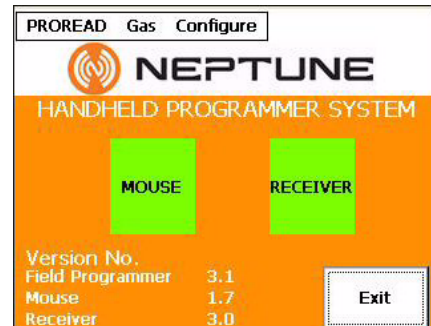

Figure 5.12 Neptune Programmer System Start Screen
- 1 On the Neptune Handheld Programming System start screen, touch or click **Configure** at the top of the screen. See Figure 5.12.